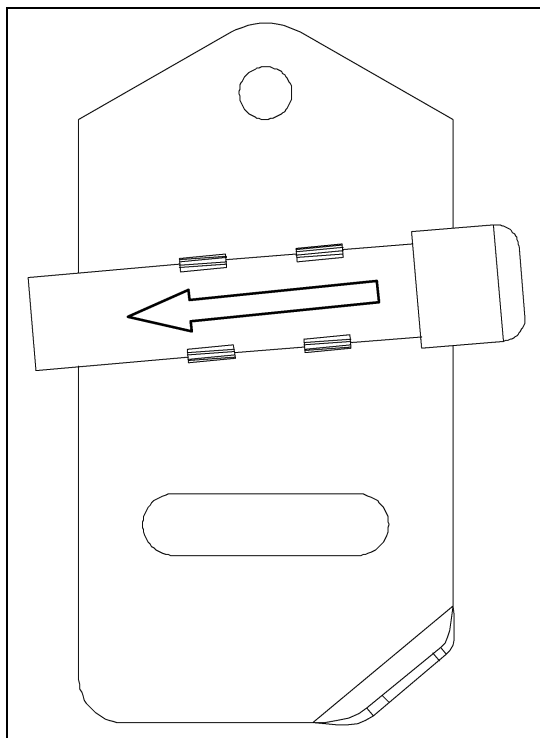
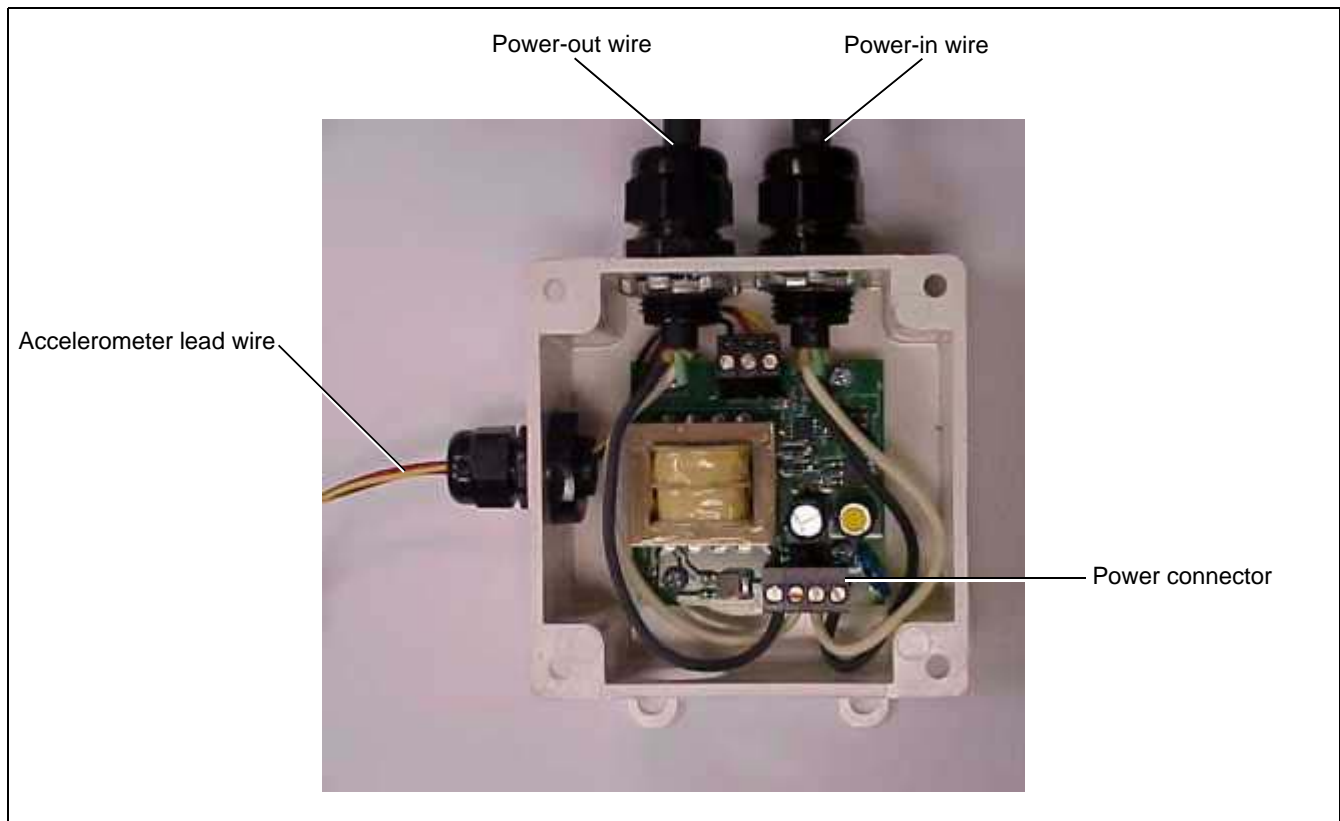

Figure 4 Accelerometer Installation
Figure 5 *Electronic Controller Enclosure Assembly Power Wire Routing*
4. Install the electronic controller enclosure assembly onto the left hand junction box mounting bracket using three (3) 1/4"-20 UNC x 5/8" flange bolts and three (3) 1/4"-20 UNC flange nuts. Remove the mercury tilt switch; route the accelerometer assembly electrical cord underneath the junction box and install the tilt switch accelerometer assembly into the tilt switch mounting bracket in place of the mercury tilt switch. Install the accelerometer assembly with the arrow on the side of the accelerometer aligned with the center of the opening of the mounting bracket clip and facing toward the front of the junction box. (See Figure 4 on Page 3.) **NOTE:** On Canadian CSA certified units, the tilt switch bracket may be relocated to the outside of the plastic junction box using the same mounting holes since mercury is no longer used. If it is desired to leave the tilt switch bracket inside the junction box, a 0.875" diameter hole must be drilled in an appropriate location in the side or bottom of the junction box for a 1EL0425 cable connector for routing of the accelerometer assembly electric cord into the junction box.
- b. Route a wire part #106E101 (18/3) through this connector into the junction box and connect the black and white wires to the terminal block with the black and white wires from the main power cord. (**NOTE:** *The green wire in this 18/3 wire will not be used.*) Route the other end of this 18/3 wire (power-in) through the top, outer (right hand) cable connector on the electronic controller enclosure assembly and connect the black and white wires to the power connector (4 terminal) at the bottom of the printed circuit board. Connect the black wire to the terminal farthest to the right and connect the white wire to the inside terminal next to the black wire. (See Figure 5.) **NOTE:** *The top portion of the 4 terminal power connector pulls OFF for access.*
c. Remove the rubber grommet from the upper knockout hole on the right hand side of the junction box (where the mercury tilt switch lead wires previously entered the box) and install a cable connector, part #1EL0425. **NOTE:** *On Canadian CSA certified units, it will be necessary to drill an additional 7/8" diameter hole in the bottom of the plastic junction box to install the 1EL0425 cable connector.* Route a wire part #106E101 (18/3) through this connector into the junction box and connect the black and white wires with the black and white wires from the track drive motor power cord (black to black and white to white) using wire nuts. (**NOTE:** *The green wire in this 18/3 wire will not be used.*) The green wire of the track drive motor power cord should be connected to the terminal block with the green wire from the main power cord. Route the other end of this 18/3 wire (power-out) through the top, inner (left hand) cable connector on the electronic controller enclosure assembly and connect the black and white wires to the power connector at the bottom of the printed circuit board. Connect the black wire to the terminal farthest to the left and connect the white wire to the inside terminal next to the black wire. (See Figure 4 on Page 3.) **NOTE:** *Both white wires of the power-in and power-out 18/3 wires should be side by side.*
- a. Remove the 460 volt motor from the track drive gear motor assembly and replace it with 230 volt motor, part #3EL4006. Replace the 460 volt fuses in the track drive gear motor fuse holders with two (2) 230 volt fuses, part #1EL0727. Connect the lead wires of the new motor to the fuse holders. Refer to 460 Volt Wiring Diagram on Page 10.
- b. Attach the transformer, part #2EL0310, to bracket, part #106E096 using four (4) 1/4"-20 UNC x 5/8" flange bolts and four (4) 1/4"-20 UNC lock nuts.
- c. Assemble the bracket and transformer to the two (2) holes in the left hand trolley junction box mounting bracket that were drilled earlier.
- f. **NOTE:** *On Canadian CSA certified units, it will be necessary to drill two (2) additional 7/8" diameter holes in the left (bin center) side and bottom of the plastic junction box to install the 1EL0425 cable connectors.*
- g. Using three (3) of wire part #106E101 (18/3), wire from the junction box to the transformer, from the transformer to the electronic controller (outer (right hand) cable connector) and from the controller (top, inner (left hand) cable connector) back to the junction box following the 460V 3 phase wiring diagram. (See Page 10.) Connect the green wire in the 18/3 wire from the junction box to the transformer to the ground screw in the transformer (install a spade terminal, part #1EL0520, onto the green wire and connect the terminal to the ground screw).
- h. In the electronic controller enclosure assembly, connect the black and white wires to the power connector (4 terminal) at the bottom of the printed circuit board. The top portion of the 4 terminal power connector pulls OFF for access. Connect the power-in black wire to the terminal farthest to the right and connect the white wire to the inside terminal next to the black wire. Connect the power-out black wire to the terminal farthest to the left and connect the white wire to the inside terminal next to the black wire. Both white wires of the power-in and power-out 18/3 wires should be side by side. (See Figure 5 on Page 4.) **NOTE:** *The green wire in the 18/3 wires to and from the controller will not be used.*
- c. Attach the transformer, part #2EL0310, to bracket, part #106E096 using four (4) 1/4"-20 UNC x 5/8" flange bolts and four (4) 1/4"-20 UNC lock nuts.
- d. Assemble the bracket and transformer to the two (2) holes in the left hand trolley junction box mounting bracket that were drilled earlier.
- g. **NOTE:** *On Canadian CSA certified units, it will be necessary to drill two (2) additional 7/8" diameter holes in the left (bin center) side and bottom of the plastic junction box to install the 1EL0425 cable connectors.*
- h. Using three (3) of wire part #106E101 (18/3), wire from the junction box to the transformer, from the transformer to the electronic controller (outer (right hand) cable connector) and from the controller (top, inner (left hand) cable connector) back to the junction box following the 460V 3 phase wiring diagram. (See Page 10.) Connect the green wire in the 18/3 wire from the junction box to the transformer to the ground screw in the transformer (install a spade terminal, part #1EL0520, onto the green wire and connect the terminal to the ground screw).
- i. In the electronic controller enclosure assembly, connect the black and white wires to the power connector (4 terminal) at the bottom of the printed circuit board. The top portion of the 4 terminal power connector pulls OFF for access. Connect the power-in black wire to the terminal farthest to the right and connect the white wire to the inside terminal next to the black wire. Connect the power-out black wire to the terminal farthest to the left and connect the white wire to the inside terminal next to the black wire. Both white wires of the power-in and power-out 18/3 wires should be side by side. (See Figure 5 on Page 4.) **NOTE:** *The green wire in the 18/3 wires to and from the controller will not be used.*